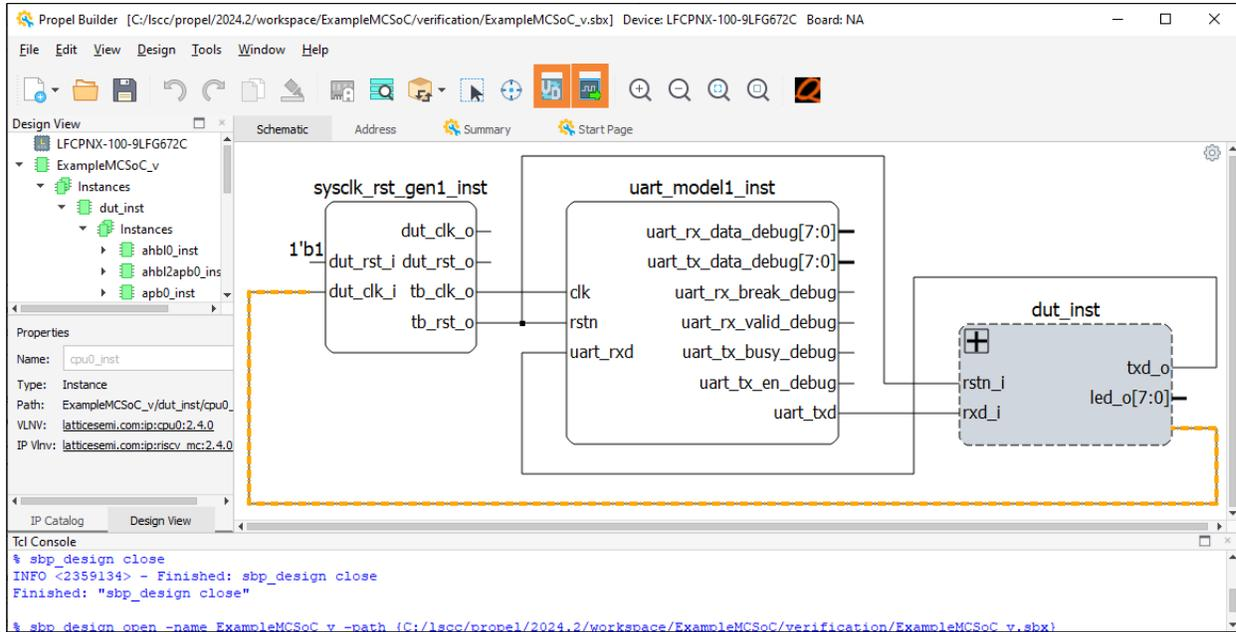

Figure 3.35. SoC Verification Project
2. Click the **Switch** icon on the toolbar to switch between SoC design and SoC verification project (Figure 3.35).
3. After the SoC design is switched to an SoC verification project, click the **Generate** icon to generate the simulation environment. Click the **Launch Simulation** icon (Figure 3.35).